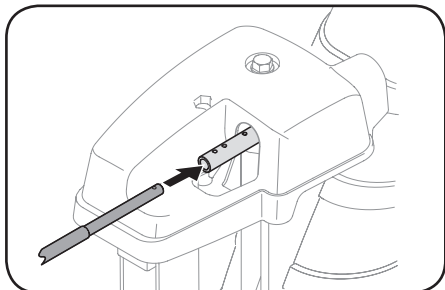

Figure 2-24
2. Insert round end of chute control rod into chute control assembly. Push rod as far into chute control assembly as possible, keeping holes in rod pointing upward. See Figure 2-24.